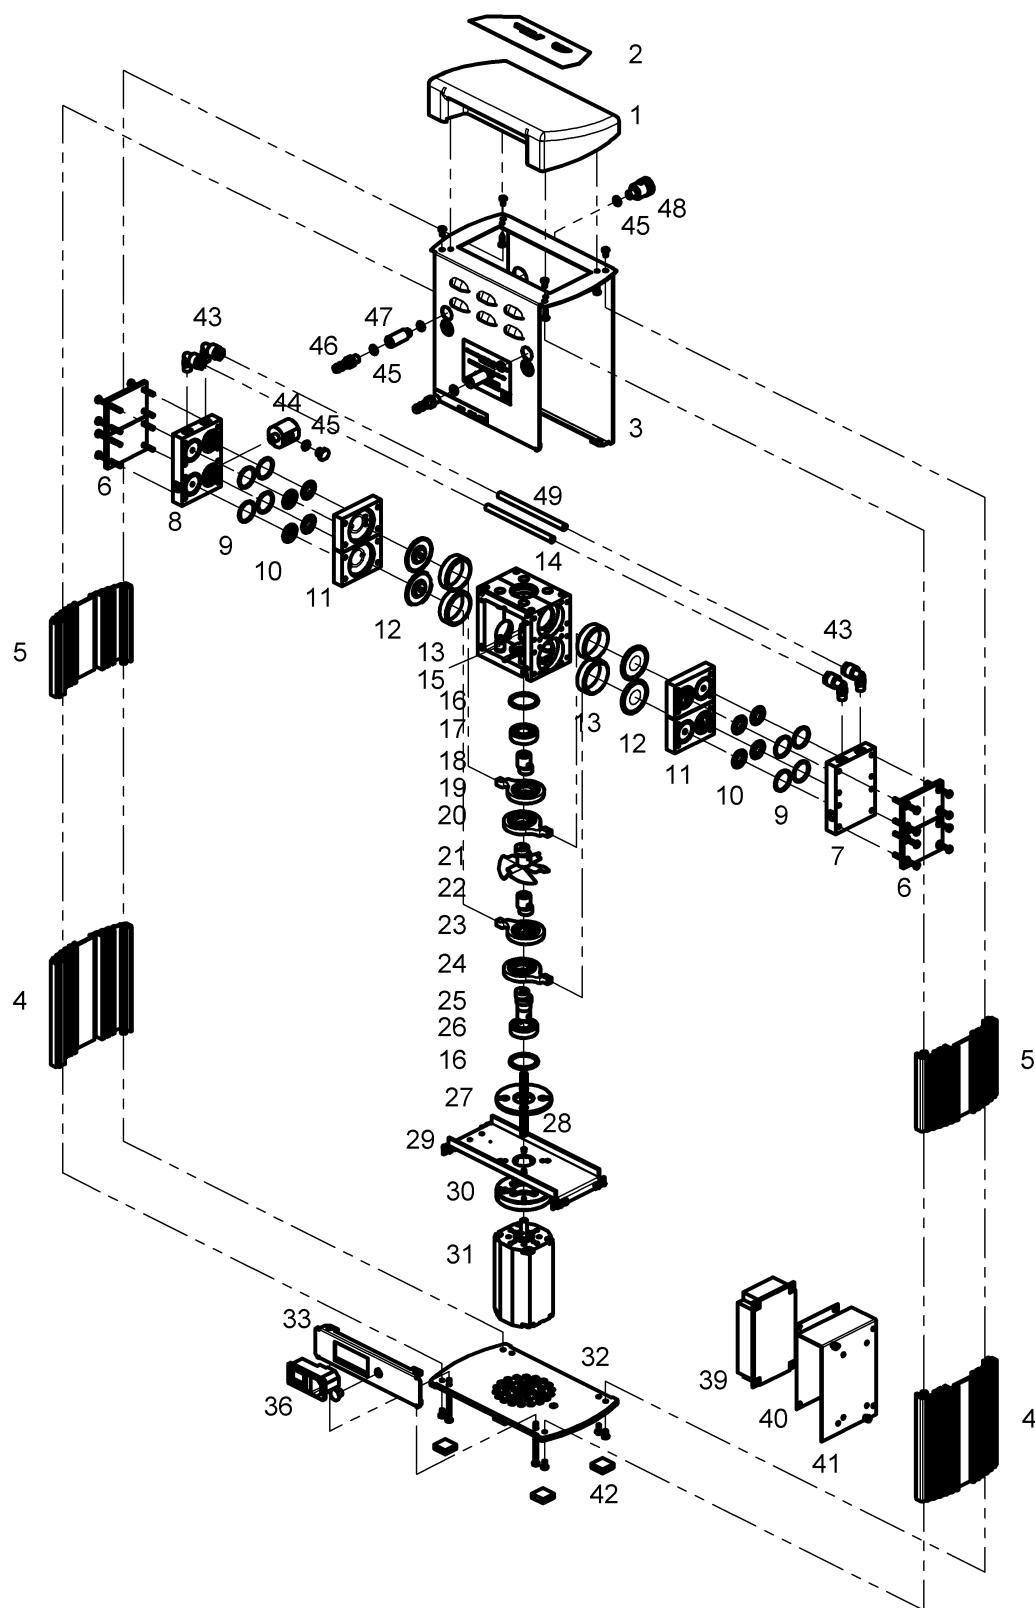

Fig. 4 Exploded view MPC 155 Z
1. Place the pump so that the diaphragm (6) is lying in a horizontal position.
2. Tighten the diaphragm (6) with the torque of 5 - 6 Nm.
3. Bring the connecting rod (see Fig. 4 - 6) and the diaphragm (6) into the central position.
4. Replace the pump head (5).
5. Insert the valves (4) and the o-rings (3). Ensure that they are lying completely flat. Do not insert the burred side facing the sealing surface.
6. Replace the connecting head (2) and tighten the 2 x 4 cross head screws (1) with a torque of 3 - 4 Nm.